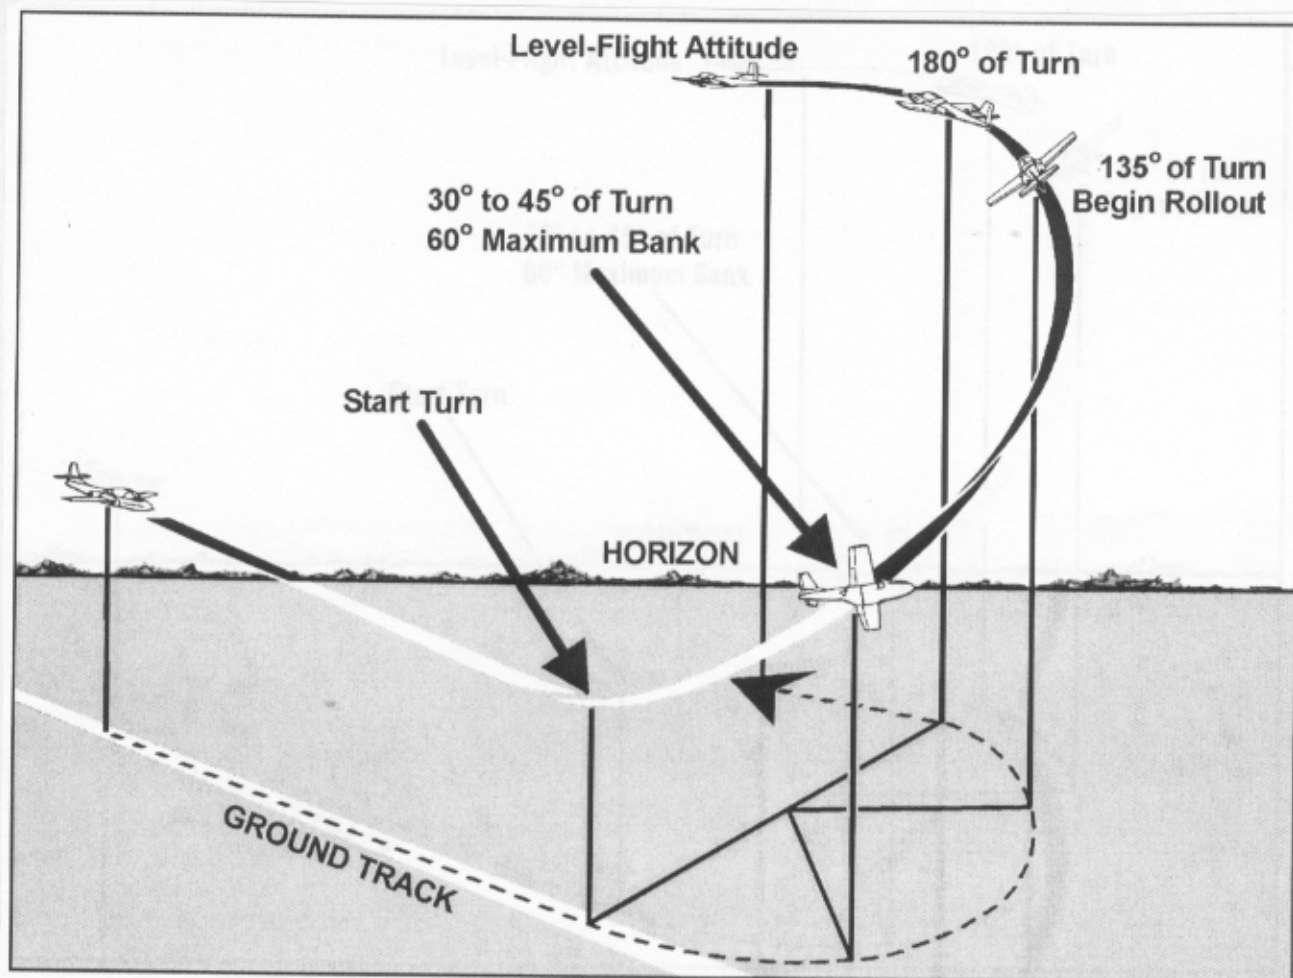

Figure 5.6. Chandelle.
5.19. Chandelle. The chandelle is a precision 180° steep climbing turn with a maximum gain of altitude (figure 5.6). Use military power for the maneuver.